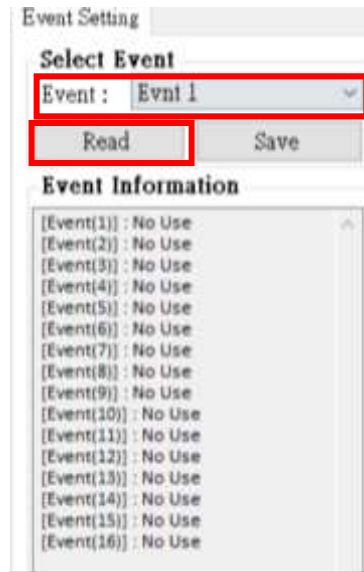

Figure 6.10.5
D. First select Event and press “Read” as shown in Figure 6.10.5